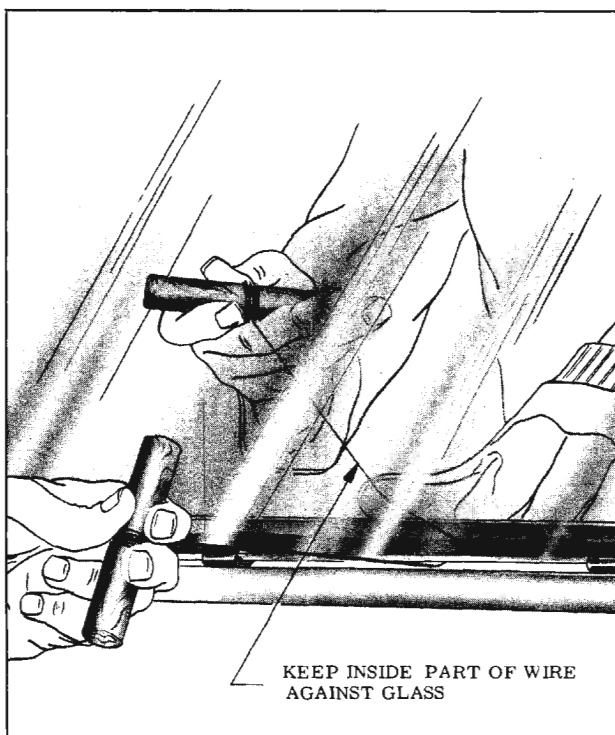

Fig. 16-214 Glass Removal
6. With aid of helper, carefully cut (pull steel wire) through caulking material, up side of windshield, across top, down opposite side and across bottom of windshield. (Fig. 16-214) Make sure inside wire is held close to plane of glass to prevent cutting an excessive amount of adhesive caulking material from opening. This can be accomplished by holding inside wire close to plane of glass with one hand while pulling wire with other hand.
6. With aid of helper, carefully cut (pull steel wire) through caulking material, up side of windshield, across top down opposite side and across bottom of windshield. (Fig. 16-214) To facilitate cutting through rubber spacers, use a sawing motion with steel wire. Avoid contact of steel music wire with garnish moldings by keeping inside wire close to plane of glass.